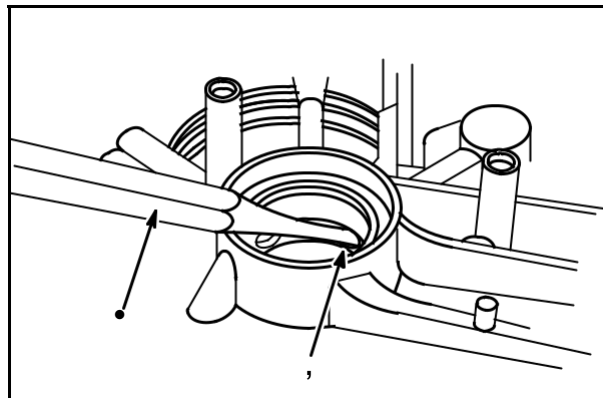

Fig. 10
Drive roll pin (2) into oil gallery using a **3/16"** punch (1), **Fig. 10**.